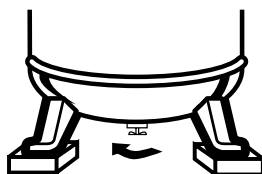

Figure 6 - Opening Drain Cock
1. Open drain cock completely and run the compressor for 60 minutes (see Figure 6).
Drain Tank (See Figure 6)	●